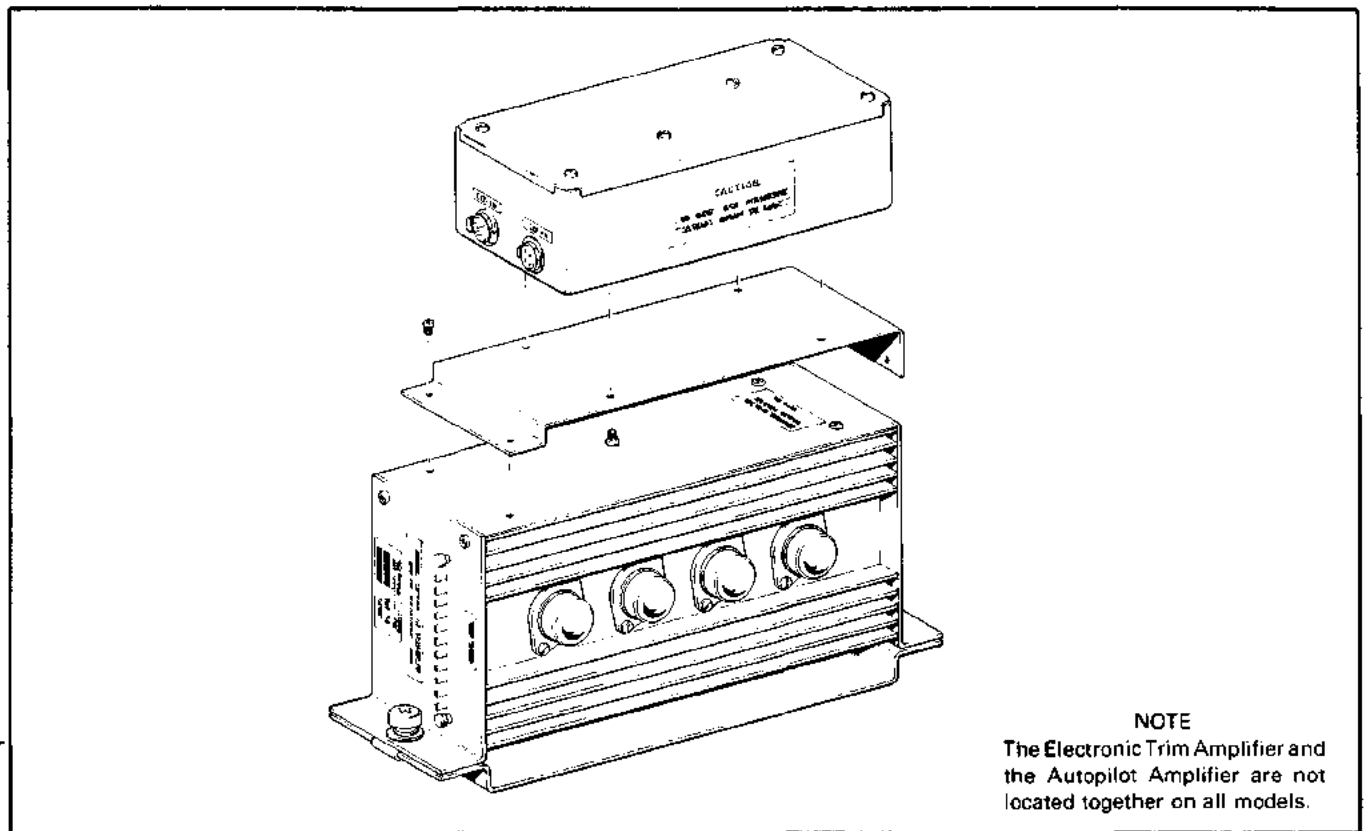

Figure 3-11. AltiMatic III C, Electronic Trim Amplifier and Autopilot Amplifier
**3-8. INSTALLATION OF ELECTRONIC TRIM AMPLIFIER. (PA-23-250 Six Place) E & F Models. (Refer to Figure 3-11.)**
**3-9. INSTALLATION OF AUTOPILOT AMPLIFIER. (PA-23-250 Six Place) E & F Models. (Refer to Figure 3-11.)**